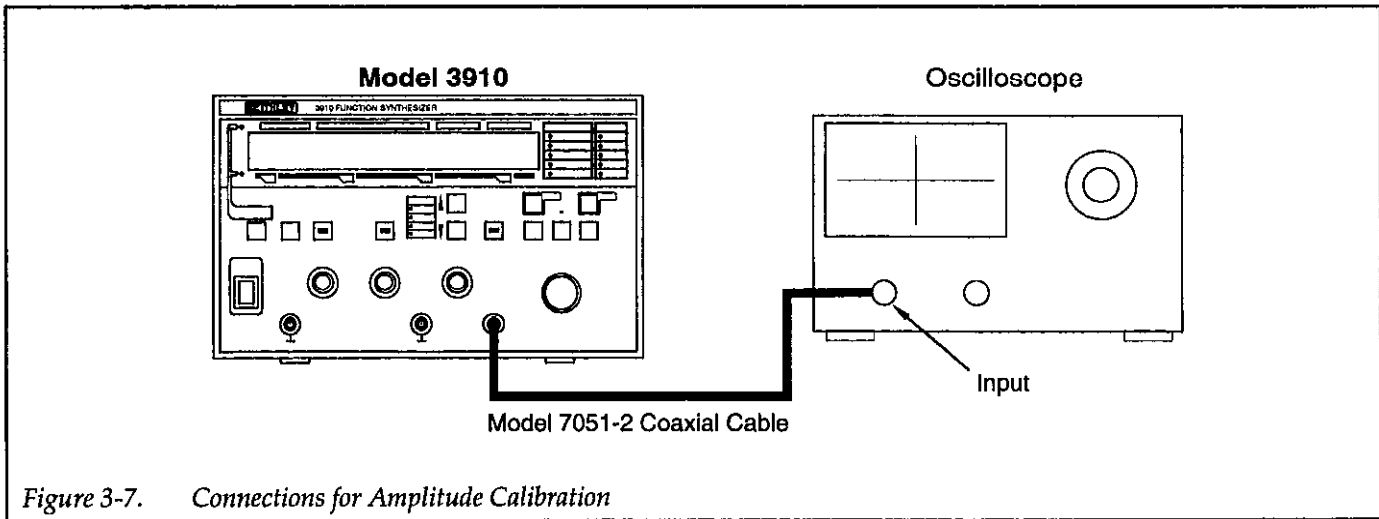

Figure 3-7. Connections for Amplitude Calibration
1. Connect the Model 3910 FCTN OUT jack to the oscilloscope input, as shown in Figure 3-7.
1. Connect the Model 3910 FCTN OUT jack to the oscilloscope input (see Figure 3-7).